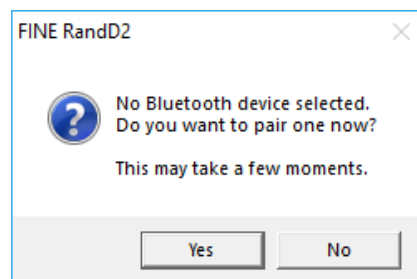

Figure 44 - Select BT pairing
Select Bluetooth (BT) Mode in the input/output pane shown in Figure 6. Now you are asked to pair your BT device as shown in Figure 44.